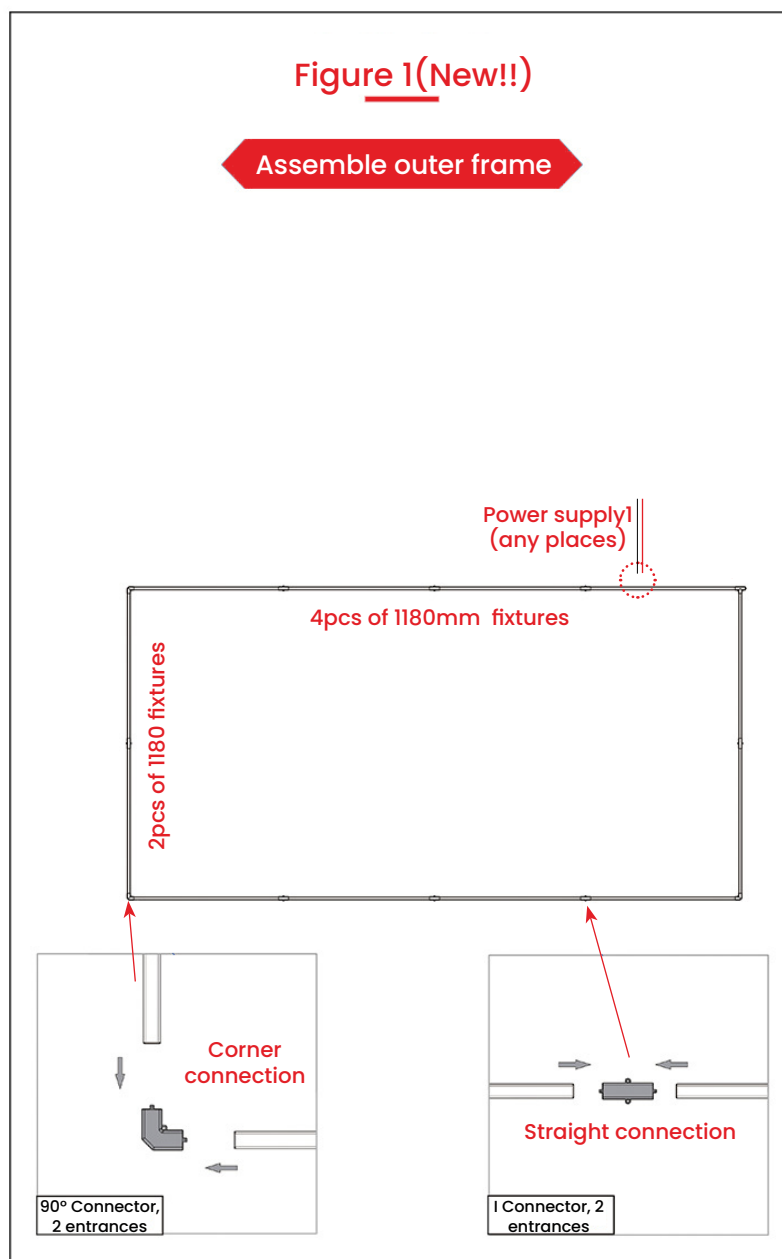

Figure 2
5. Assemble the inner hexagonal frame by short lighting fixtures, 120° connector, Y connector and T connector for power supply. See Fig 2.